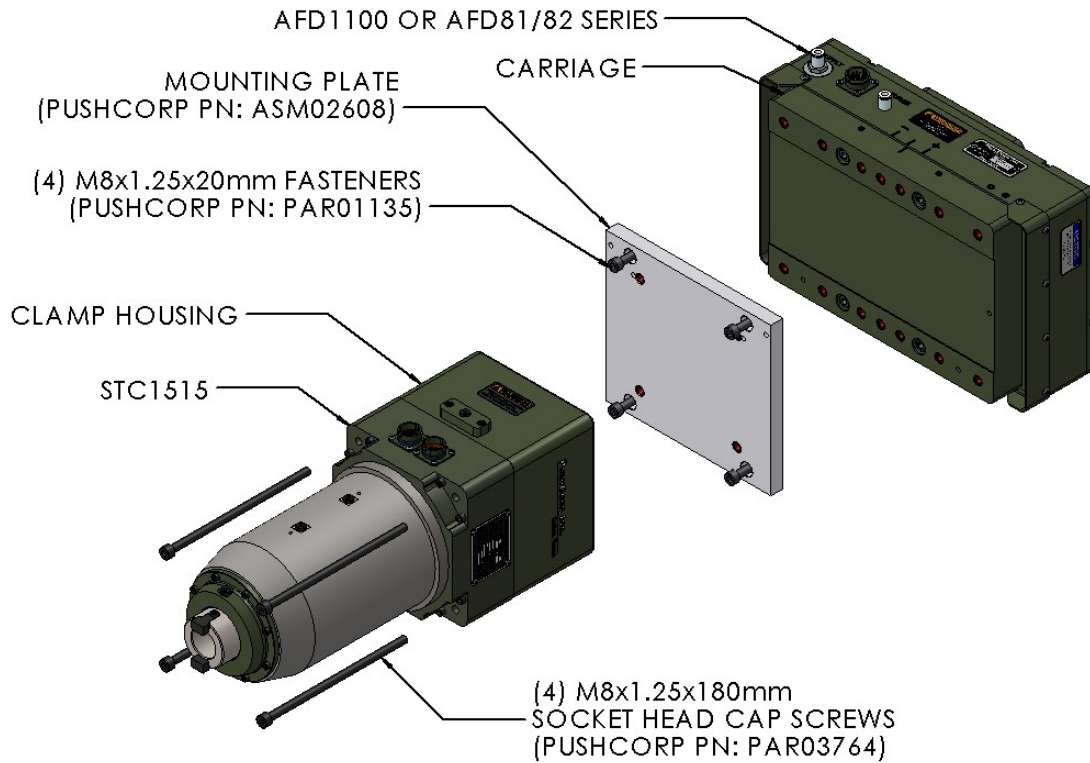

Figure 1. STC1515 Perpendicular-Axis Configuration
For the Parallel-Axis configuration, shown in Figure 1, the 1515 attaches to the AFD Carriage with two brackets and four (4), M8x1.25x25mm, Socket Head Cap Screws. The 1515 is positioned on the Carriage with the Foot Bracket while the Front Bracket is attached to the forward mounting holes. The Clamping Screw on the Front Bracket should be loose to allow sliding movement along the motor. Attach the Foot Bracket to the Clamping Housing (Mounting Plate for the SM0612) using two (2), M8x1.25 Socket Head Cap Screws. When the desired position is achieved secure the brackets to the Carriage, and tighten the Clamping Screw. The M8x1.25, Socket Head Cap Screws, must be the proper length and tightened to the torque specified in Section 4.0.